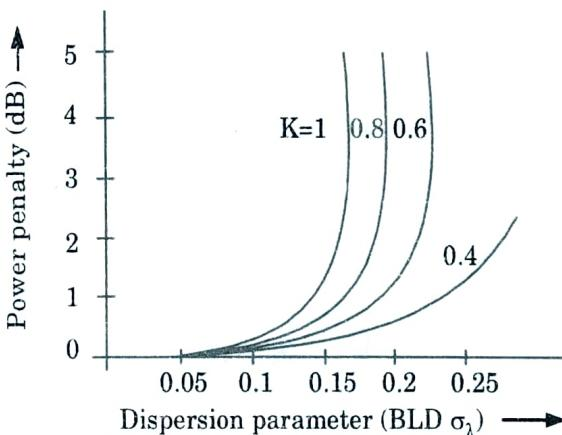

Fig. 5.13.3. MPN induced power penalty.
5. Fig. 5.13.3 shows power penalty at $BER = 10^{-9}$ as a function of normalized dispersion parameter (BLD) for different value of mode partition coefficient (*K*).